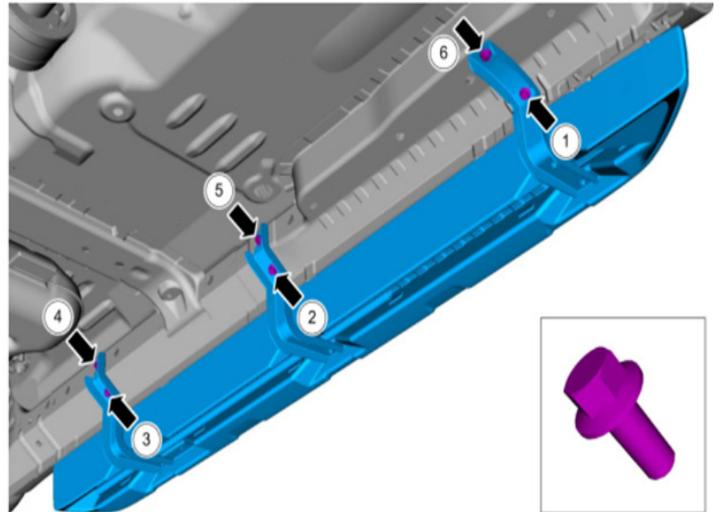

Figure 1
2. Using a 13mm socket wrench, remove the six (6) OEM bolts securing the driver side OEM running board to the vehicle. (Figure 1)
****Note if your vehicle doesn't have OEM running boards, use a plastic panel pry tool to remove the plastic nut covers from the same six (6) bolt hole locations as shown in figure 1.**